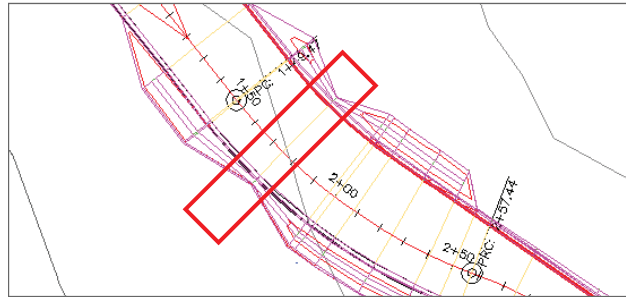

FIGURE 10.3 The ditches have been removed, but only at a single station within the corridor.
7. Click Close on the ribbon to close the Section Editor and return the drawing to its normal state. If you zoom in to the plan view, you'll notice that the ditch has been omitted, but only at one location in the corridor (see Figure 10.3).